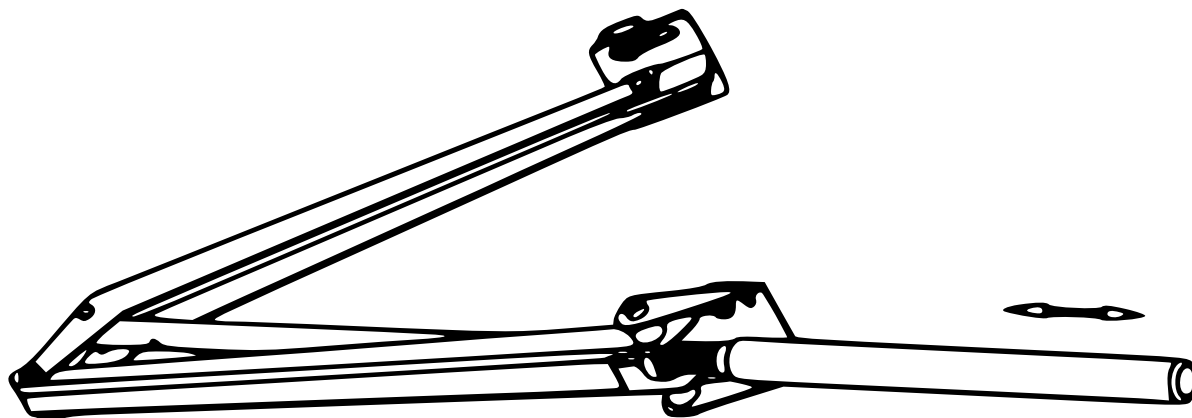

Figure 9
- Turning the cylinder can lead to the automatic opener opening at different temperatures (see fig. 9).